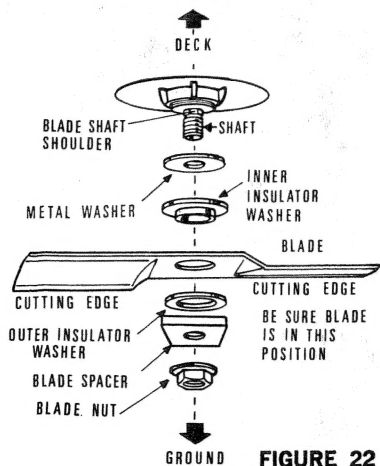

FIGURE 22
4. Remove blade spacers, outer insulation washers and blades (Figure 22).